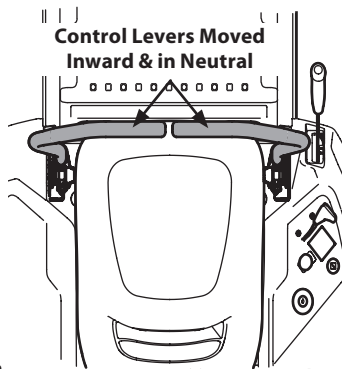

Figure 27
2. Move the RH and LH lapbar drive control levers inward in the neutral position which also disengages the parking brake. Refer to Figure 27.